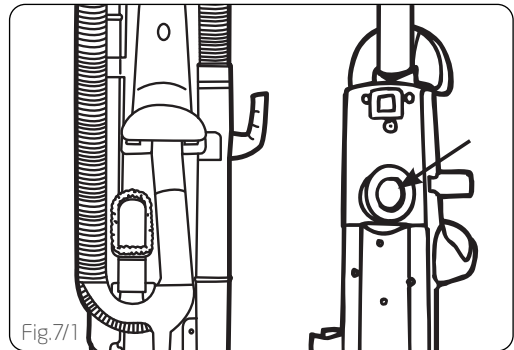

Fig.7/1
- 1 Remove the dirt container (see section 5) and check dirt container inlet located on cleaner (Fig.7/1).